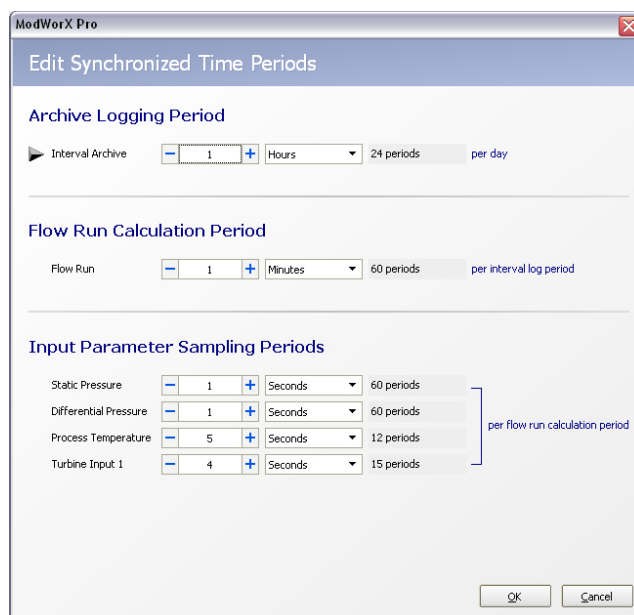

Figure 3.21
1. Click **Edit**. The Edit Synchronized Time Periods window will appear, and an arrow will point to the Interval Archive setting (Figure 3.21).